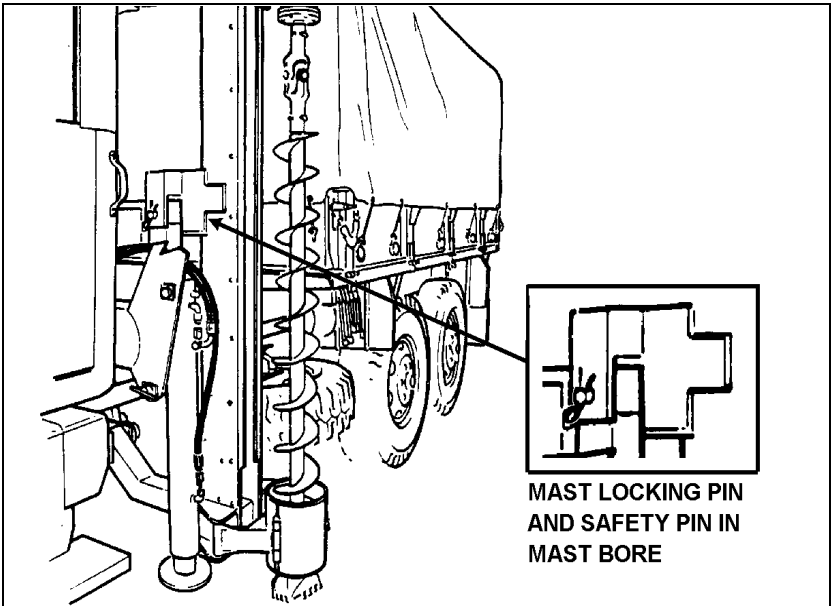

Fig 6-2-18 Mast Bore and Mast Locking Pin
- c. remove the mast locking pin and safety pin from the pin stowage bracket and insert into the mast bore, securing with safety pin as shown in Fig 6-2-18.